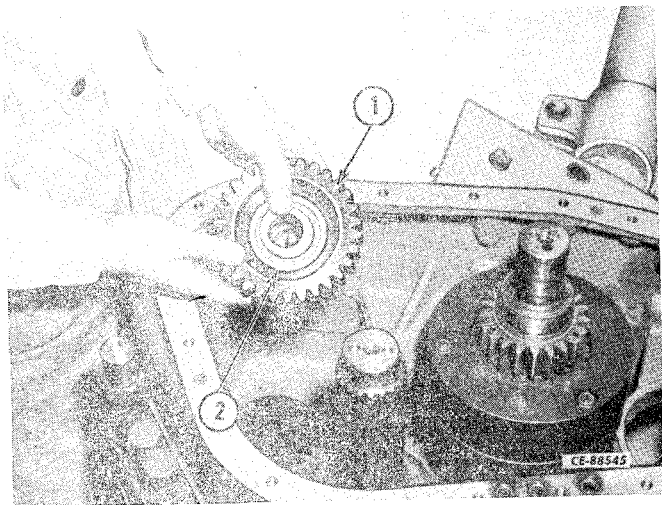

Figure 4-36
Remove the reverse idler gear (1, Fig. 4-36) and bearing assembly (2).